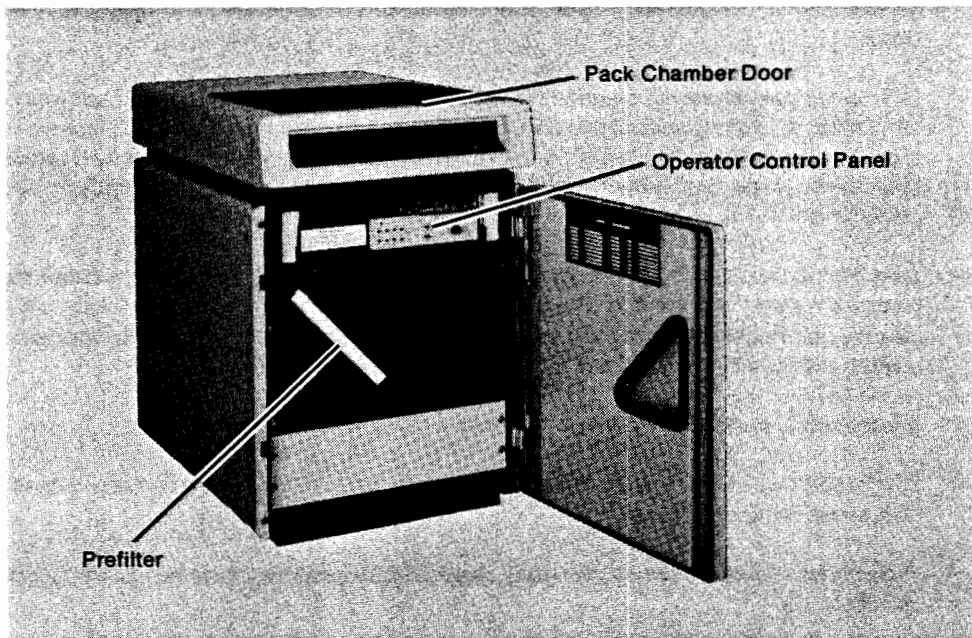

Figure 2. HP 7925 Disc Drive
- The prefilter (see figure 2) should not be left out while the disc drive is operating. The longer it is out, the greater the chance of contaminants entering the disc drive.
- b. Open the front door to gain access to the operator control panel (see figure 2).
- b. Open the front door to gain access to the operator controls (see figure 2).
- d. At the rear of the disc drive, set the POWER switch to 0 (off). (On earlier versions of the HP 7925, a power switch labeled DISC is located on the operator control panel. See figure 2.)